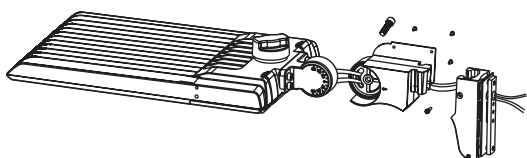

Figure 10
1. Separate the adjustable pole mount assembly into three pieces by removing the M10 × 35mm bolt in the center of the adjustment knuckle and loosening the two set screws. (Figure 10)
2. Pass the input wire through the center of the first two sections and secure the bracket to the fixture housing with the (4) M8 × 25mm bolts (included). (Figure 10)